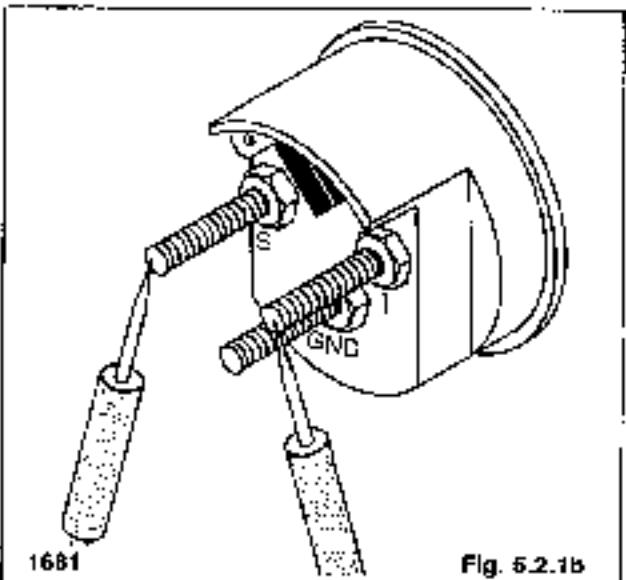

Fig. 5.2.1b
- Remove the left hand instrument panel. With the ignition off, connect one ohmmeter lead to the "I" terminal of the fuel gauge. Connect the other ohmmeter lead to the "S" terminal of the fuel sender (Fig. 5.2.1b).